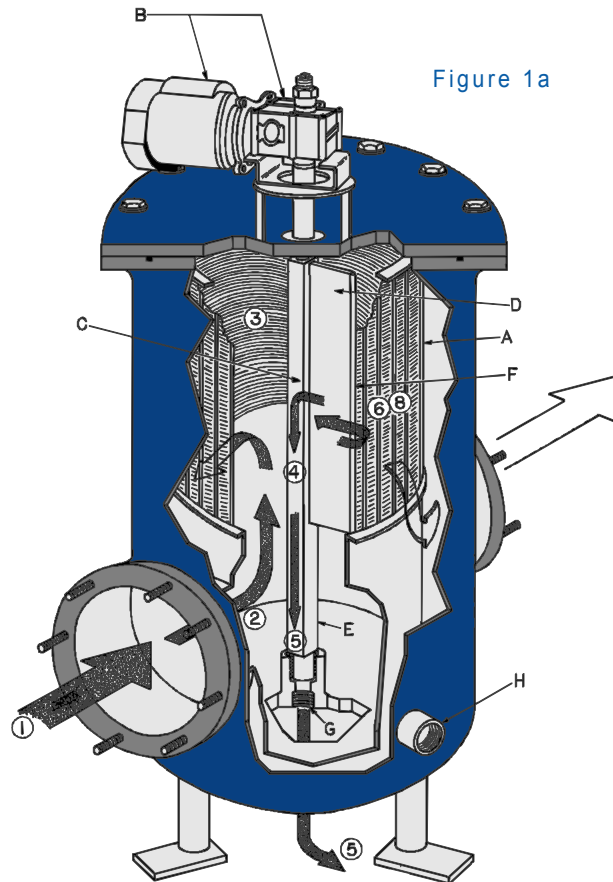
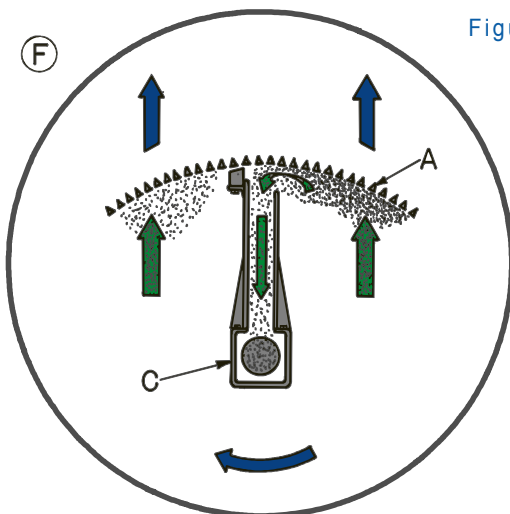
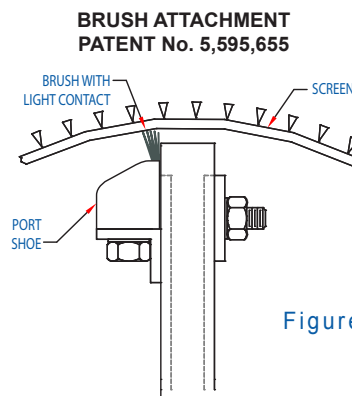

Figure 1a
Figure 1b
Figure 1c
1. Debris laden fluid enters through inlet to inner chamber (Figure 1a).
2. Dirty fluid flows upward to the strainer element (A).
3. Debris is retained on the flat face of the strainer element, while stained fluid continues to outer chamber and exits through strainer outlet (See Figure 1a).
4. During backwash or cleaning cycle, the motor/gear reducer (B) is engaged and drives the hollow drive shaft (C) and hollow port (D) around the inner circumference of the strainer element.
6. Flow reversal occurs at the port/straining element (F) interface because of the pressure differential described in 5 (See Figure 1b).
7. Debris is effectively vacuumed from the full length of the straining element by a vigorous reverse fluid flow and into the hollow port; down the hollow drive shaft and out the backwash outlet (G).
9. A brush molded to the port shoe facilitates debris removal on the straining element (See Figure 1c). A non-brush port shoe is available as an option.